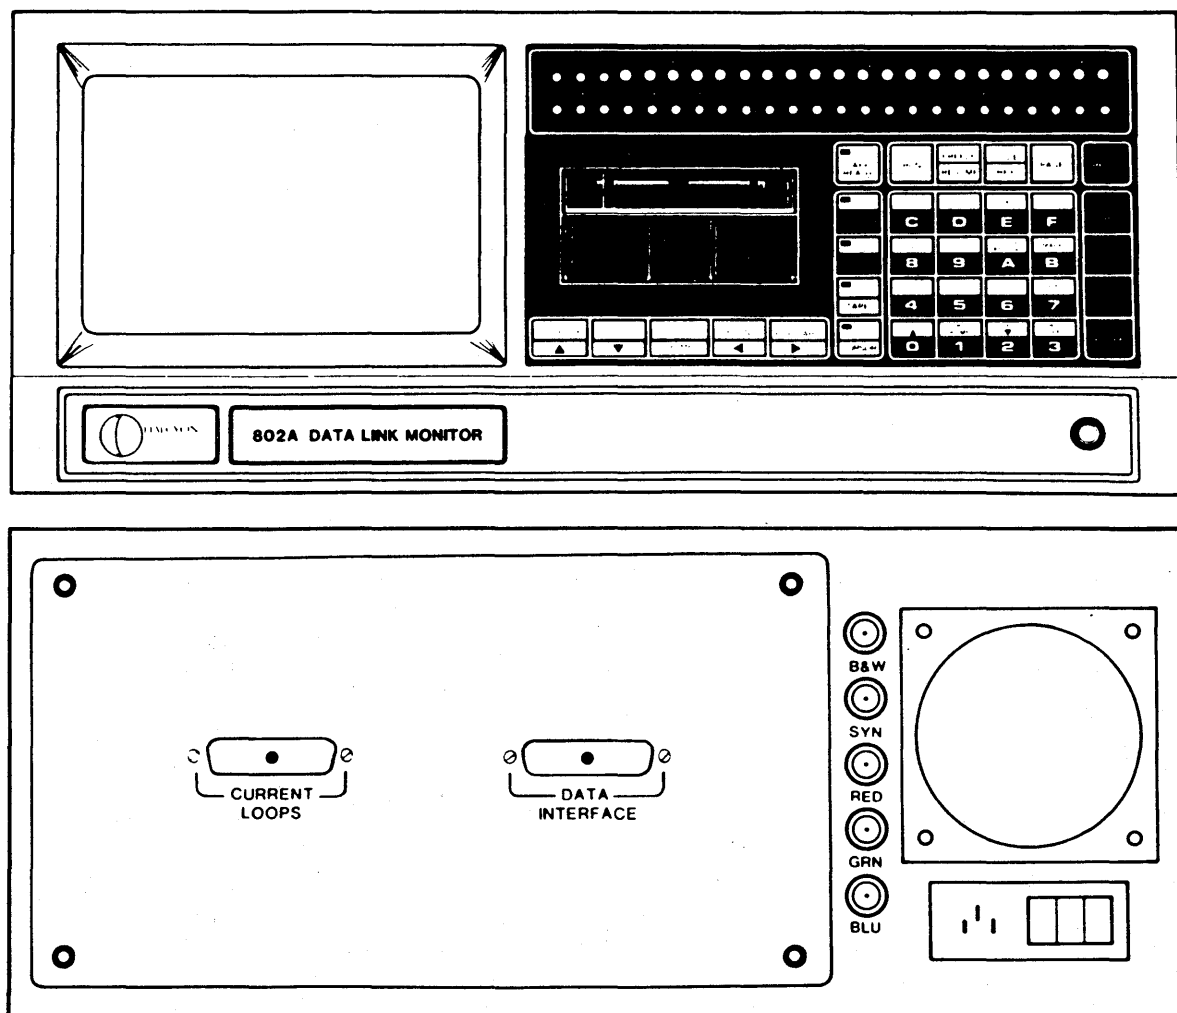

Figure 1. Monitor Front and Rear Views
3.01 This part contains descriptions of the controls, indicators, and connectors of the monitor. (See figure 1.) For purposes of this discussion the monitor is divided into six functional sections: the EIA line interface section, the tape function keys, the cursor function keys, the function key pad, the hexadecimal key pad, and the rear panel.